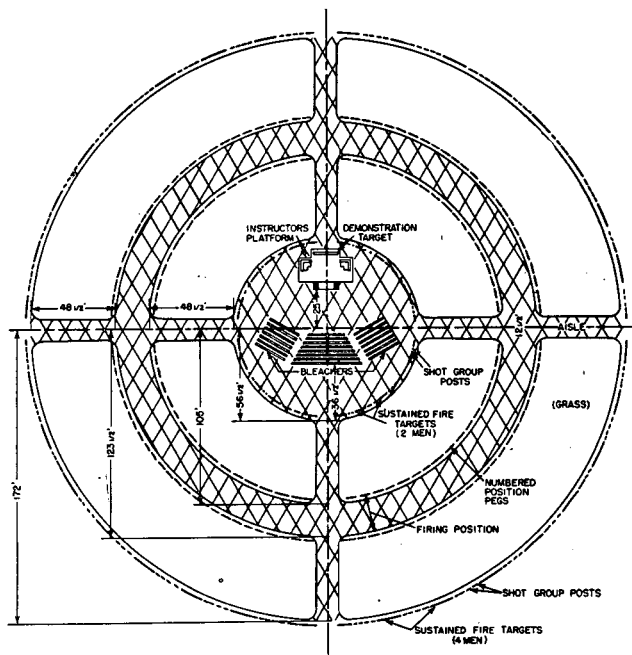

Figure 119. Detailed layout of the two company circular preparatory marksmanship field (permanent).
b. Organization. The preparatory marksmanship instruction circle may consist of four concentric circles (for two companies) or two concentric circles (for one company). The two-company installation (four concentric circles) is organized as shown in figure 119. Observe the following guides in organizing the training area:
- (1) The field is centered around a demonstration platform which is fronted by bleachers for seating the class. A sliding target frame, similar to the type used on the known-distance range, may be constructed on the rear of the demonstration platform for use as a training aid. Other training aids may be required for each step of the instruction.